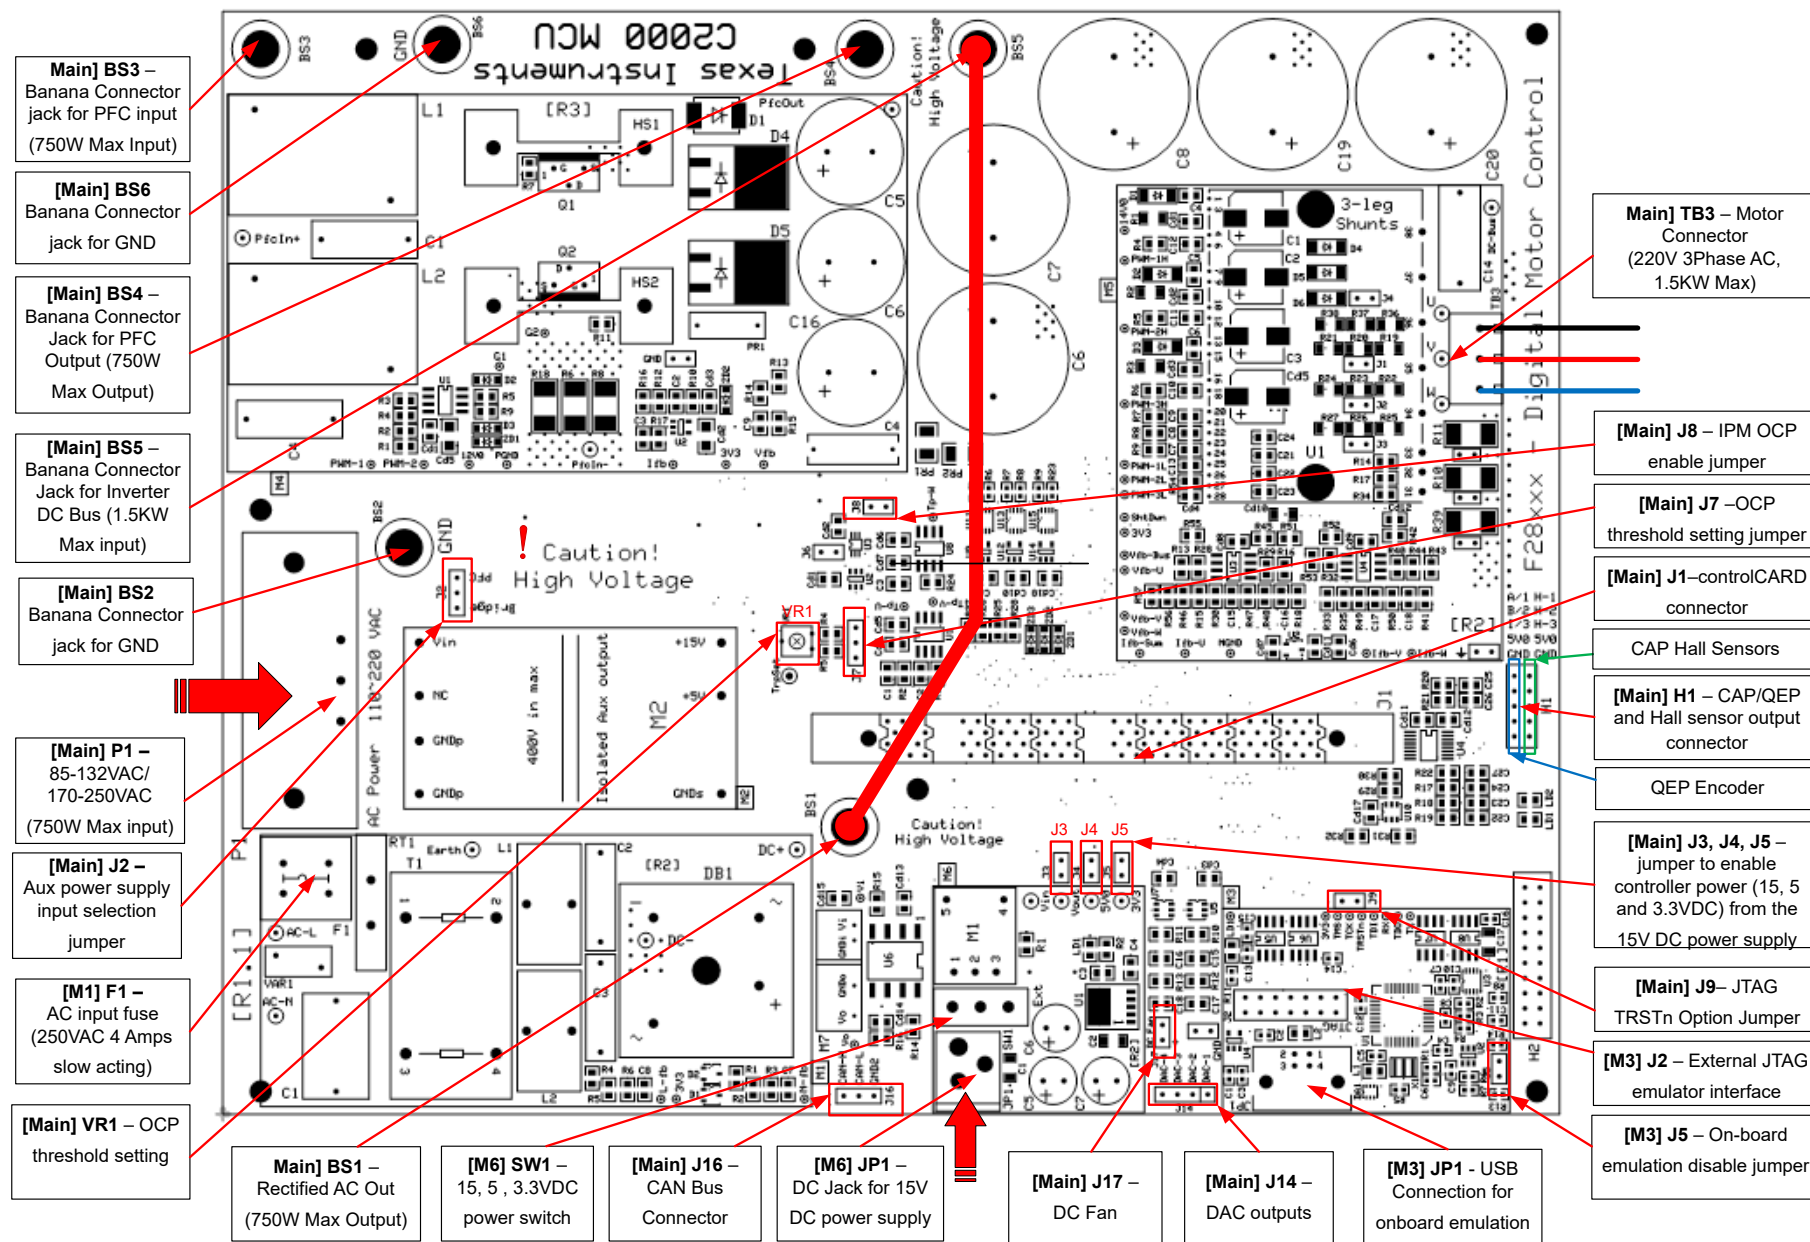

Figure 2-12. TMDSHVMTRINSPIN Kit Jumpers and Connectors Diagram
- Make sure the following jumpers & connector settings are valid as shown in Figure 2-12.
- Connect the motor, encoder, and hall sensors to the kits as described in Table 2-2 and shown in Figure 2-12.
Table 2-3 shows the various connections available on the board, illustrates the location of these connections on the board with help of a board image as shown in Figure 2-12.